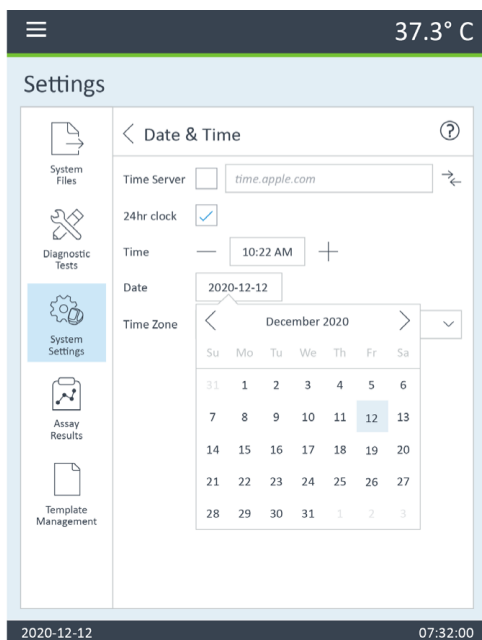

Figure 37. Configure date and time for the XFp Analyzer.
- 2 Select the **Date & Time** settings tab. (Figure 37 on page 61)